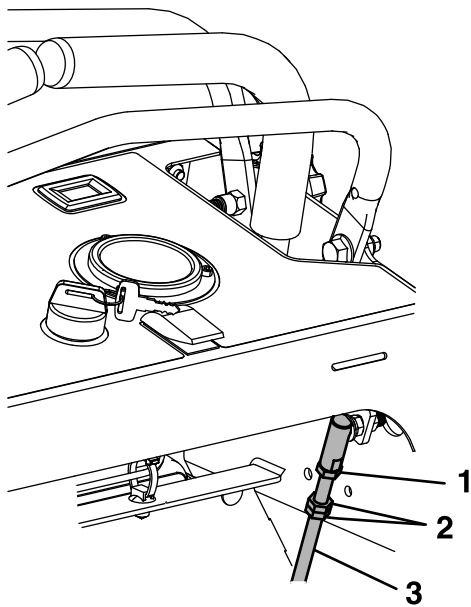

Figure 45
6. Loosen the upper jam nut at the base of the ball joint as shown in Figure 45. Adjust the control rod length by turning the two jam nuts. To increase the gap, turn the control rod counterclockwise. To decrease the gap, turn the control rod clockwise.
5. Loosen the top jam nut at the upper end of the ball joint on the lever that needs to be adjusted (Figure 45).